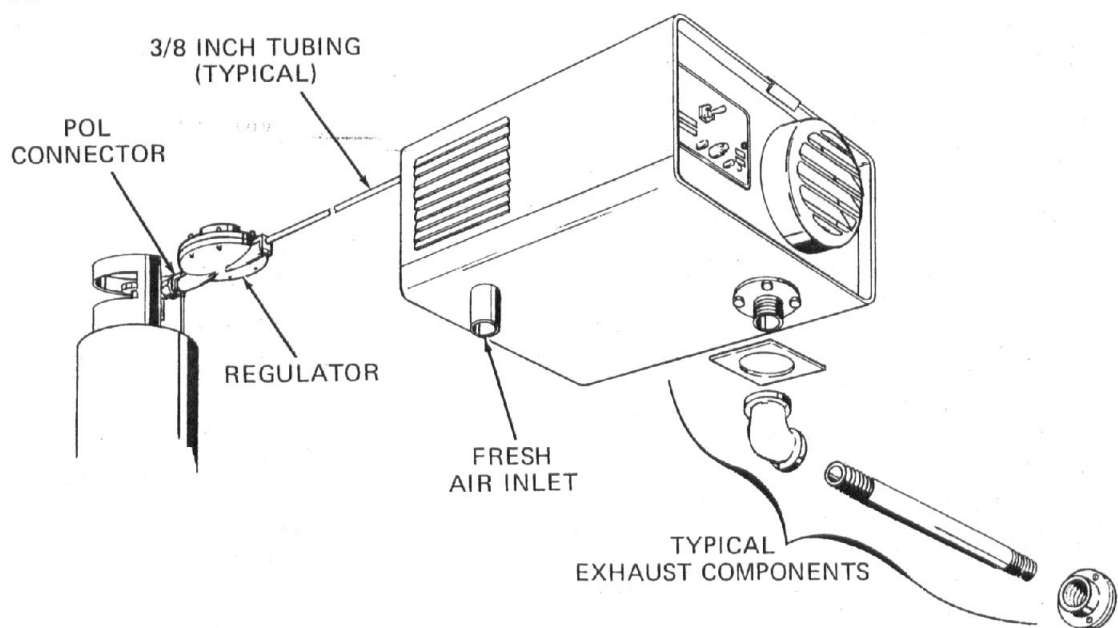

Figure 3. Typical Fuel and Exhaust Connections
2. The propane tank must be a gas bottle designed or modified for vapor takeoff only. Install POL connector (2, fig. 10) at the IN port on regulator (1), and install these assembled parts into the propane tank shutoff valve, as shown in figure 3.